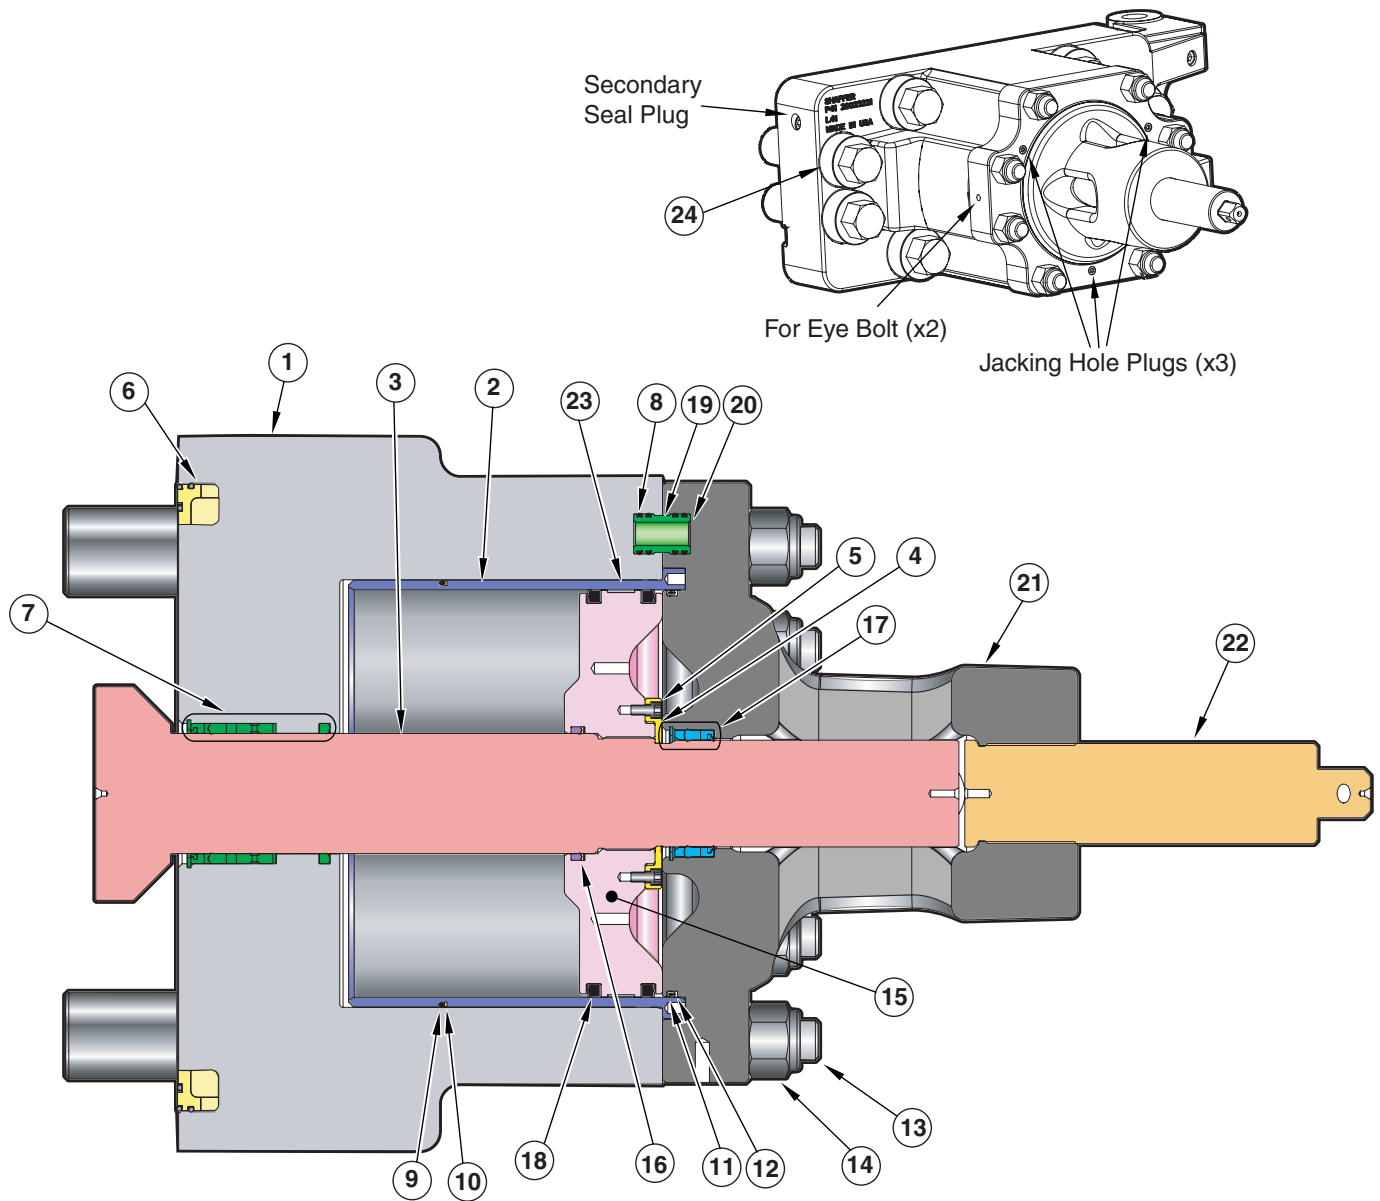
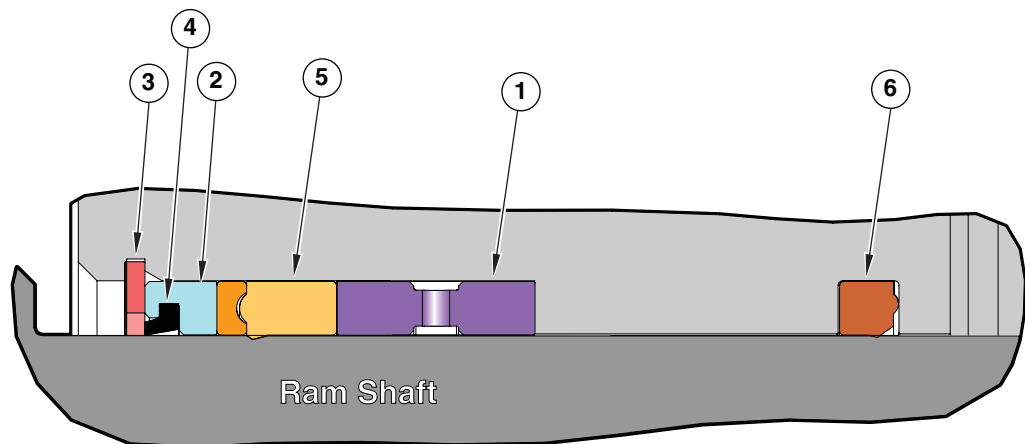
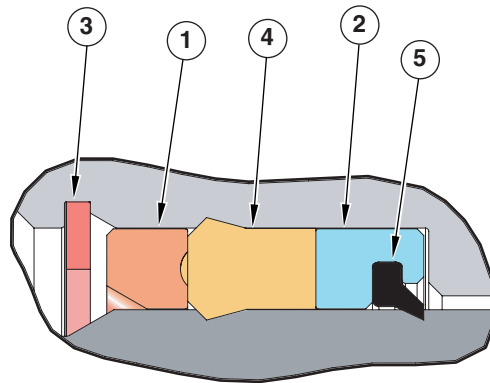

Figure 4-14. Manual Lock Door Components
Figure 4-15. Ram Shaft Seal Assembly - Manual Lock
Figure 4-16. Locking Shaft Seal Assembly
(All items in parenthesis refer to Figure 4-14 on Page 4-20 Door Assembly Components and associated parts list.)
4. Remove the eight hex nuts (item 14) and install three ( $\frac{5}{8}$ -inch 11 UNC anti-seize lubricated) jacking bolts into the UNC threaded holes in the cylinder head (item 21).
5. Using the jacking bolts, tighten the bolts to pull the cylinder head from the door (item 1).
6. Install a lifting eye ( $\frac{5}{8}$ -inch 11 UNC) in both sides of the cylinder head to aid in the removal. Slide the cylinder head over the ram shaft (item 3) until the seal sub (item 19) can be removed without damage.
**NOTE:** The locking shaft (item 22) should stay inside the cylinder head during the removal. Be watchful of the locking shaft.
8. With the cylinder head and locking shaft removed, unscrew the two retainer bolts (item 5) in the piston and remove the anti-rotation retainer (item 4) from the piston and slide over the ram shaft
9. Install two bolts or eye bolts in the  $\frac{1}{2}$ -inch 13 UNC holes to be used to unscrew the piston assembly (item 15) from the ram shaft (3).
10. Remove the piston assembly (item 15).
11. The ram shaft can be removed through the door exposing the ram shaft seal assembly (item 7).
12. Remove the spiral retainer ring (item 3) and then remove the ram shaft seal assembly from the door (see Figure 4-15 on Page 4-22 and associated parts list on Page 4-23).
13. With the piston and ram shaft removed, two eye bolts can now be installed in the cylinder sleeve (item 2) so it can be pulled for inspection and O-ring seal and backup ring (items 9 and 10) replacement.
(All items in parenthesis refer to Figure 4-14 and Figure 4-15 and the associated parts lists.)
**NOTE:** The RSSA also includes one hydraulic opening pressure poly-pak seal, item 6 (see Figure 4-14 and Figure 4-15 - Ram Shaft Seal Assembly).
2. Lubricate the RSSA and the door cavity with SAE 30 W oil and install the new RSSA complete with a new spiral retainer ring as shown on Figure 4-14 and Figure 4-15.
Item numbers refer to Figure 4-14 on Page 4-20.
(All items in parenthesis refer to Figure 4-14 on Page 4-20 Door Assembly Components.)
3. Remove the eight hex nuts (item 14) and install three ( $\frac{5}{8}$ -inch 11 UNC anti-seize lubricated) jacking bolts into the UNC threaded holes in the cylinder head (item 21).
4. Using the jacking bolts, tighten the bolts to pull the cylinder head from the door (item 1).
5. Install lifting eyes in the side of the cylinder head. Slide the cylinder head off the ram shaft (item 3). The locking shaft will be removed with the cylinder head.
6. Place the cylinder head in a supported position and remove the spiral retainer ring (3) from the cylinder head and remove the LSSA. (See Figure 4-16 on Page 4-24.)
(All items in parenthesis refer to Figure 4-14 on Page 4-19, Figure 4-16 above.)
1. Clean the LSSA cavity of the cylinder head (item 21) with fine emery cloth.
2. Lubricate the LSSA and the cylinder head cavity with SAE 30W oil and install the new LSSA complete with a new spiral retainer ring as shown on Figure 4-16- Locking Shaft Seal Assembly on Page 4-24.
3. Install four new O-rings (item 8) on the seal sub (item 19). Lubricate with SAE 30W oil and install into the door (item 1).
4. Install a new back-up ring (item 12) and O-ring (item 11) into the cylinder head (item 21). Lubricate with SAE 30W oil.
(14) and torque in a criss-cross fashion to a maximum torque of 1,350 ft.-lbs. (1830 Nm)
(All items in parenthesis refer to Figure 4-14 on Page 4-28 and Figure 4-16 on Page 4-28).